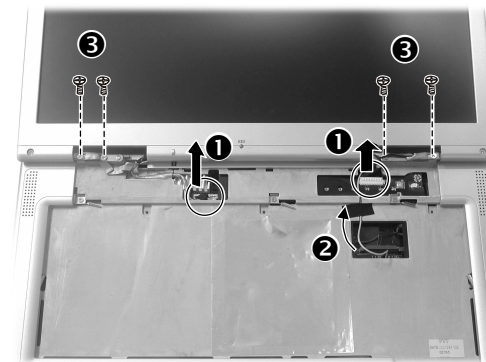

Figure 2-13 Remove the LCD ASSY
6. Disconnect the LCD cables from the mother board (❶) and Pull out the antenna from the KB cable's compartment (❷). Then unscrew the four screws (❸). Now you can separate the LCD ASSY. (Figure 2-13)